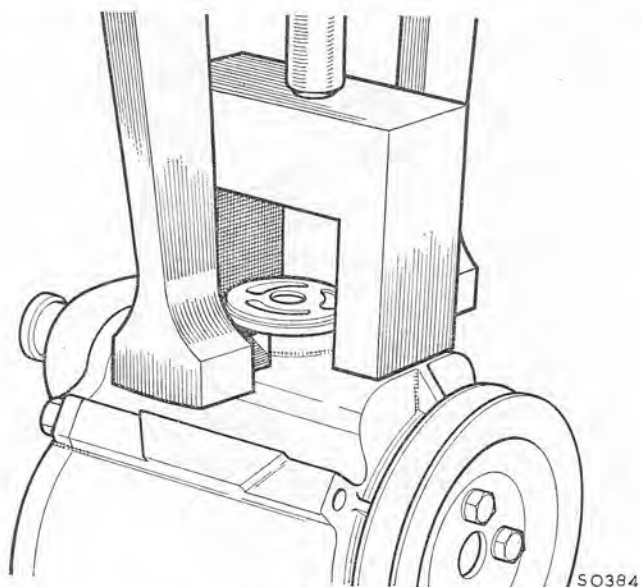

Fig. 8
- (1) Remove the air pump.
- (2) Using a gear puller and a fabricated bridge as shown in Fig. 8, withdraw the relief valve from the pump body.
- (3) Enter the new relief valve into the pump body.
- (4) With a protective plate over the valve, carefully drive the valve into the pump until its flange registers lightly on the pump body.
- (5) Insert the pressure setting plug into the relief valve, using a suitable tool, apply pressure to the centre of the plug until the legs of the plug lock under the relief valve cage.